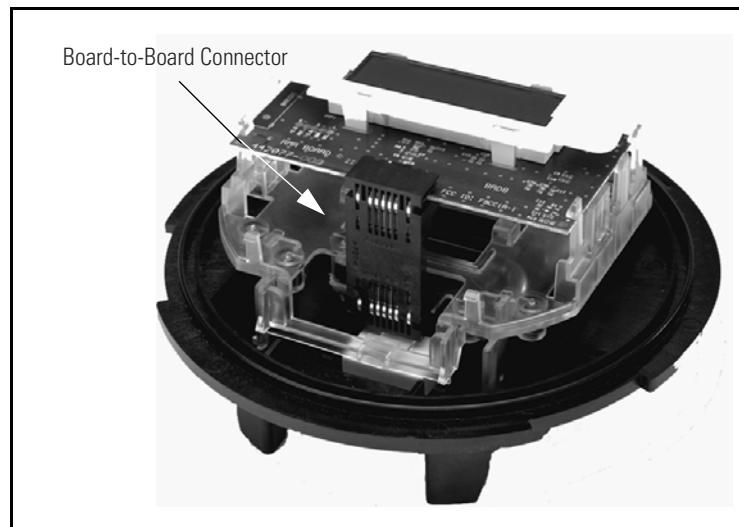

Figure 2.3 Removing the Board-to-Board Connector
- If an electronic register is present, remove the black board-to-board connector between the circuit board and the metrology board by pulling it by its middle while moving it side-to-side (see Figure 2.3). To maintain the integrity of the connector, only remove it when you are upgrading the meter.